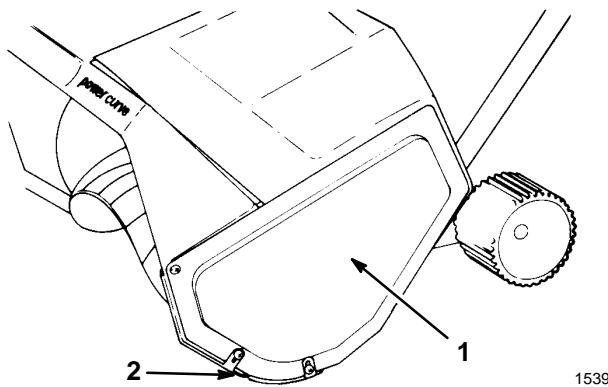
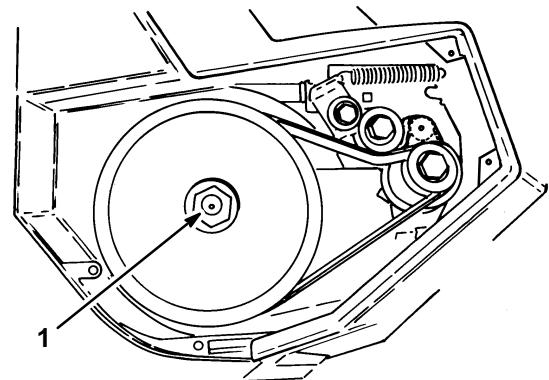

Figure 14
Figure 15
Note: If you are unable to remove rotor shaft by holding rotor, remove left side cover and skid (Fig. 14). Hold hex nut with 7/8" wrench while unscrewing rotor shaft (Fig. 15).
1. Remove (3) screws securing left side plate to snowblower frame (Fig. 14). Remove side plate and skid.
1. Remove (3) screws securing left side plate and skid to snowblower frame (Fig. 14). Remove side plate and skid.